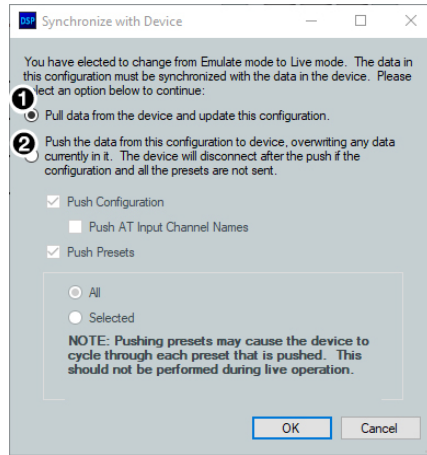

Figure 30. Synchronize with Device Dialog Box
3. When a connection with a device is established, the **Synchronize with Device** dialog box opens (see figure 30).